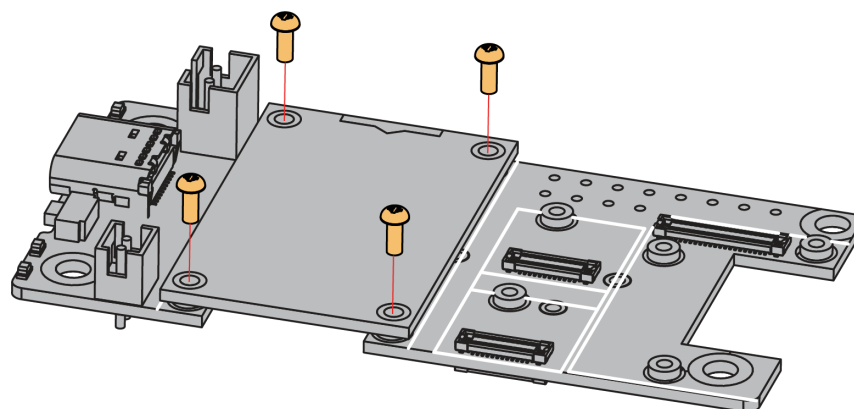

Figure 18: Removing screws from the WisBlock module
1. The procedure to disassemble any type of WisBlock modules is the same. As shown in **Figure 18**, first, remove the screws.